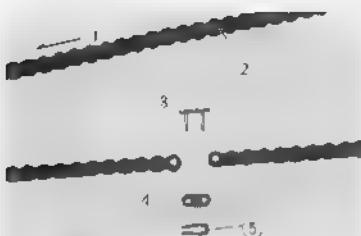

Fig. 4.102 Chain clip direction
a. The chain joint clip must be installed so that the opening is opposite to the direction of rotation. (Fig. 4.102)